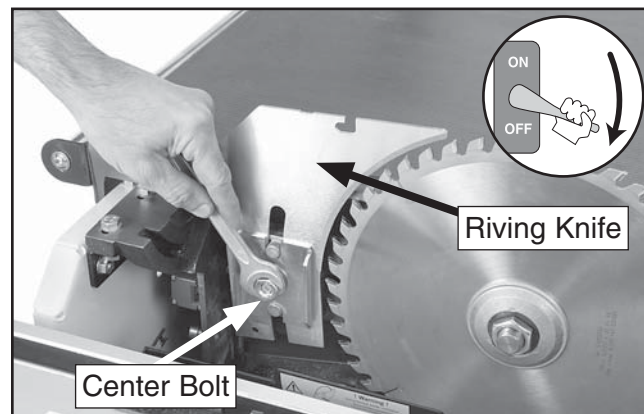

Figure 23. Installing the riving knife.
17. Slide the table all the way backward, open the blade guard, then loosen the riving knife center bolt. Slide the riving knife over the bolt as shown in Figure 23, and slightly tighten.